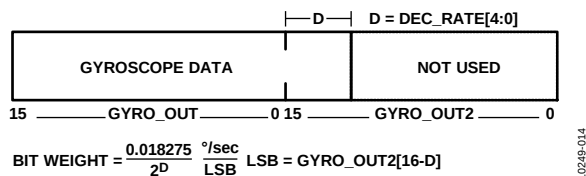
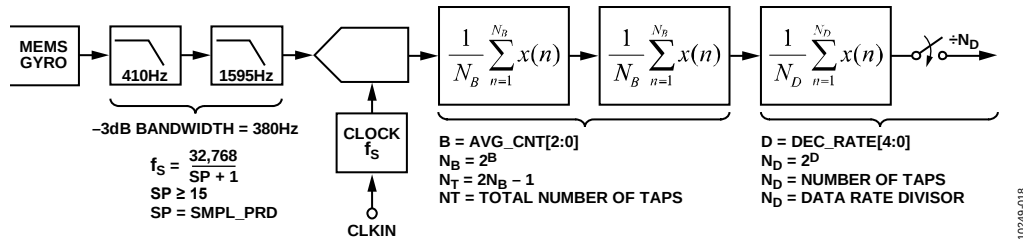

Figure 14. Gyroscope Output Format, DEC_RATE[4:0] > 0
Figure 18. Sampling and Frequency Response Block Diagram
The GYRO_OUT2 register (see Table 11) captures the bit growth associated with the decimation and FIR filters that are shown in Figure 18 using a MSB justified format. The bit growth starts with the MSB (GYRO_OUT2[15]), is equal to the decimation rate setting in DEC_RATE[4:0] (see Table 18), and grows in the LSB direction as the decimation rate increases. See Figure 14 for more details.
Figure 18 provides a block diagram for the sampling and digital filter stages inside the ADIS16136. Table 15 provides a summary of registers for sample rate and filter control.
[15:0]	Clock setting bits; sets f_s in Figure 18
The AVG_CNT register (see Table 17) provides user controls for the low-pass filter. This filter contains two cascaded averaging filters that provide a Bartlett window FIR filter response (see Figure 18). For example, set AVG_CNT[7:0] = 0x04 (DIN = 0xA004) to set each stage to 16 taps. When used with the default sample rate of 1024 SPS, this establishes a –3 dB bandwidth of approximately 24 Hz for this filter.
[2:0]	Binary; B variable in Figure 18; maximum = 110 (6)
The DEC_RATE register (see Table 18) provides user control for the final filter stage (see Figure 18), which averages and decimates the output data. For systems that value lower sample rates, this filter stage provides an opportunity to lower the sample rate while maintaining optimal bias stability performance. The -3 dB bandwidth of this filter stage is approximately one half the output data rate. For example, set DEC_RATE[7:0] = 0x04 (DIN = 0xA204) to reduce the sample rate by a factor of 16.
[4:0]	Binary; D variable in Figure 18; maximum = 10000 (16)